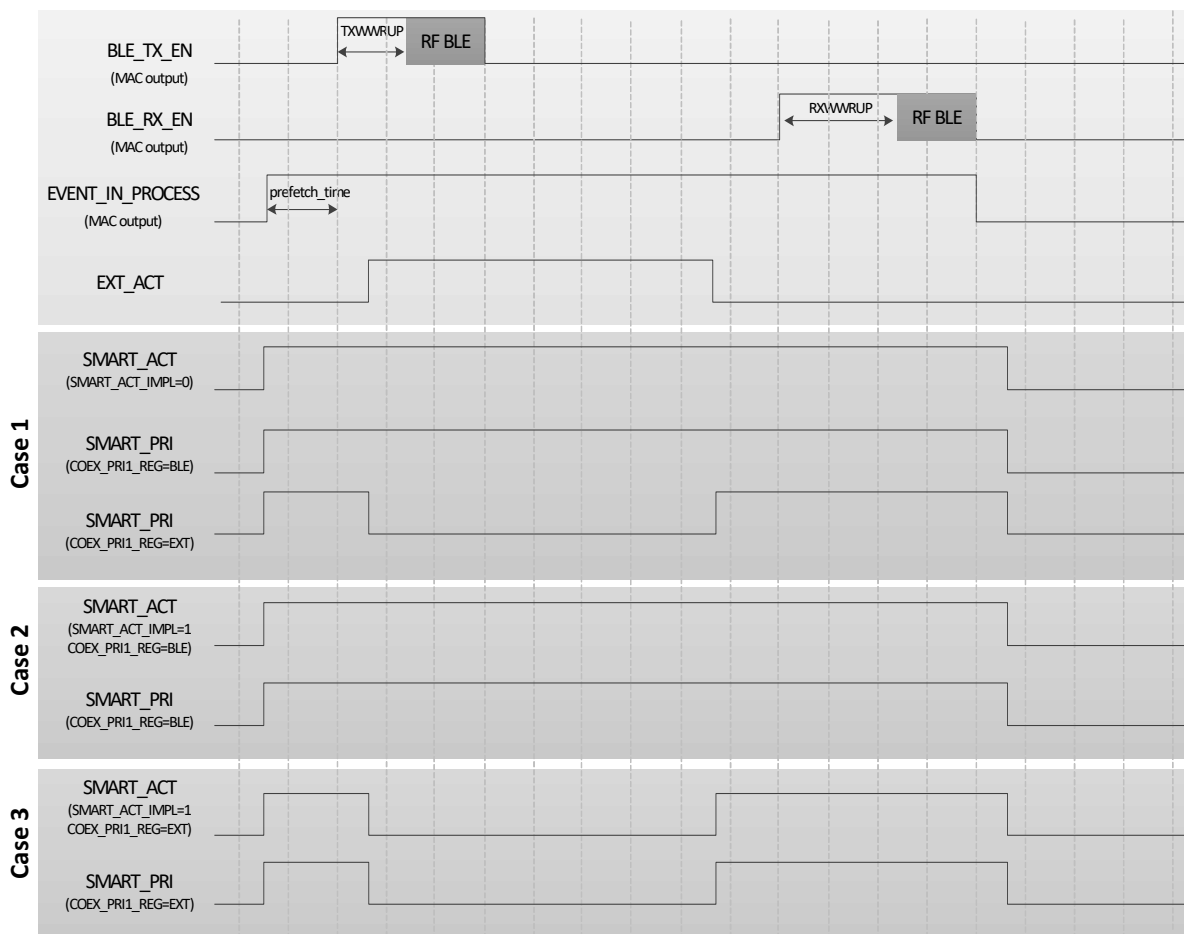

Figure 131: Coexistence signalling cases
2. SMART_ACT: this is an output from the DA14683 and when asserted it designates that the DA14683 is transmitting or receiving hence an external device should be aware of the radio activity. The exact timing of the assertion of this signal is depicted in Figure 131.
An overview of the aforementioned scenarios is presented in Figure 131.